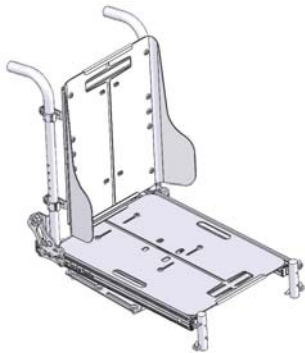

Figure 5-78
5.3.5.9 KISS Seat without tilt and recline options is shown as Figure 5-78.